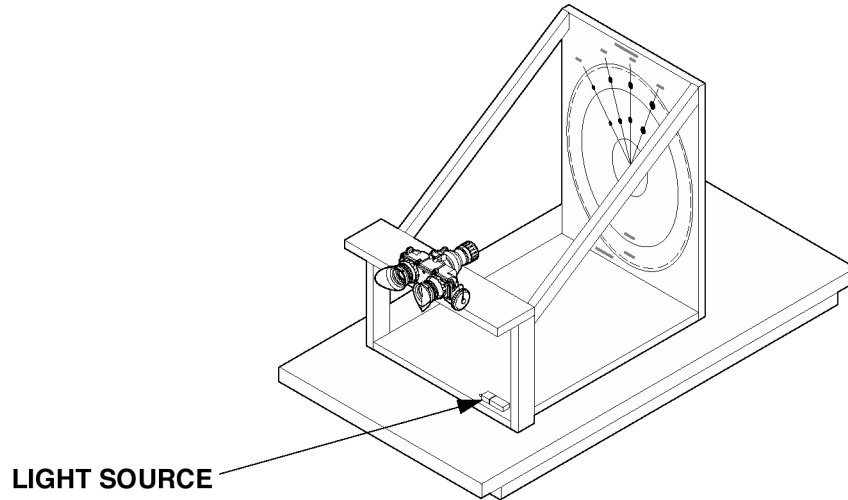
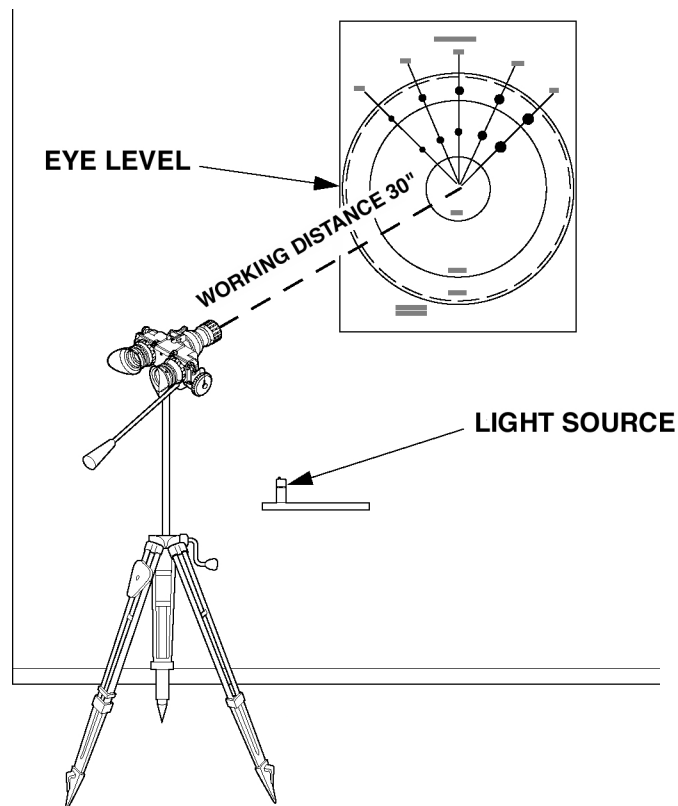

Figure 3-6. Dark Room Setup with Test Fixture.
Figure 3-7. Dark Room Setup with Tripod.
- (1) Set up your dark room as shown in Figure 3-6 or Figure 3-7.